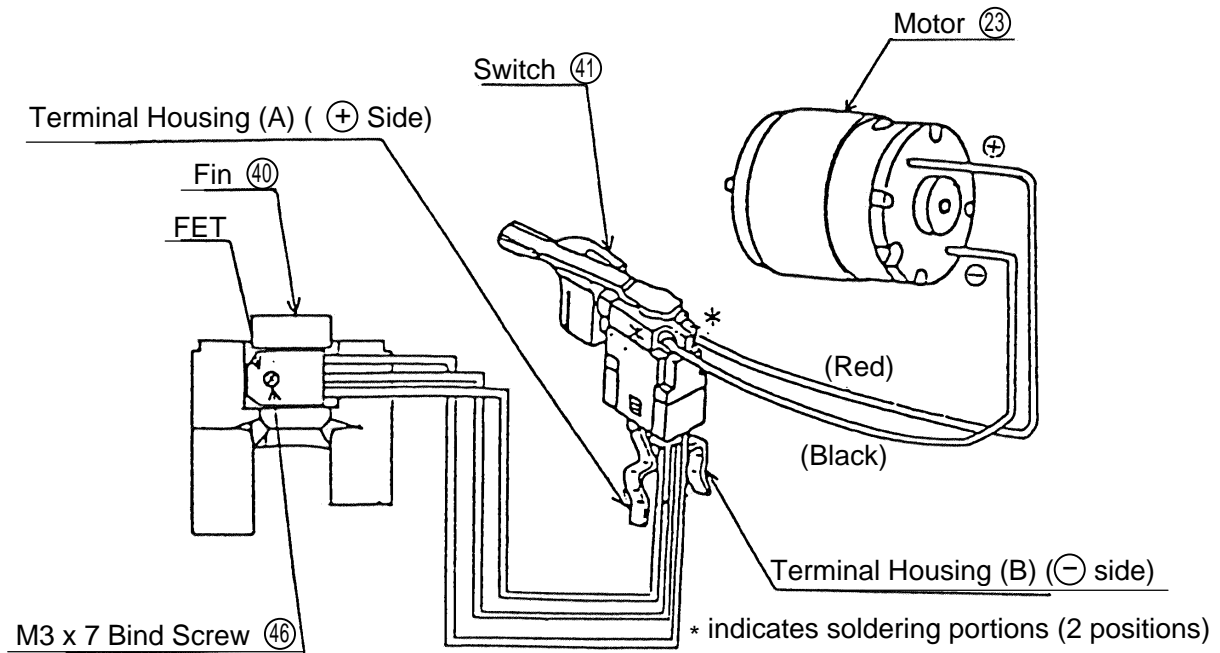

Fig. 5 Leadwire Arrangement of Model D 10DF2
As illustrated in Fig. 5, secure a J-148 Spring Lock Jig (Special Repair Tool, Code No. 970928) in a vise, and insert the assembled Keyless Chuck (2), Spindle (5), Cap (8) and related parts into the spline hole of the J-148 Spindle Lock Jig. Next, fully open the jaws of the Keyless Chuck (2), and remove the M5 x 17 Flat Hd. Screw (1) by turning it clockwise with a slot (minus) head screwdriver.
(1) Reassembly of Electrical Components:
- [1] Ensure without fail that wiring is connected as shown in the diagram (Fig. 5).